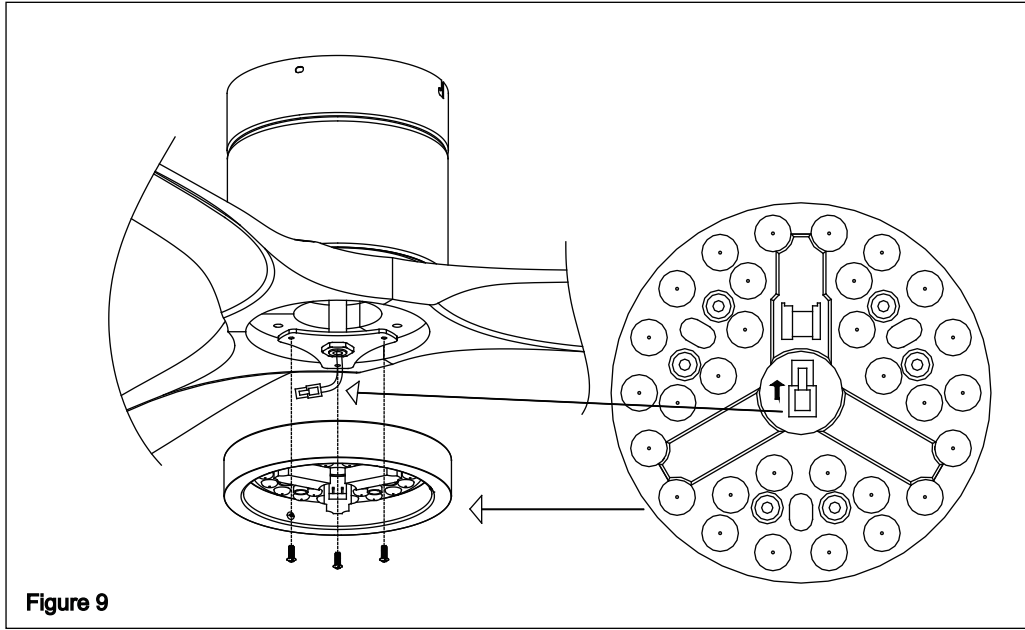

Figure 9
- 2). Install the LED lamp on the motor with three screws. (Figure 9)